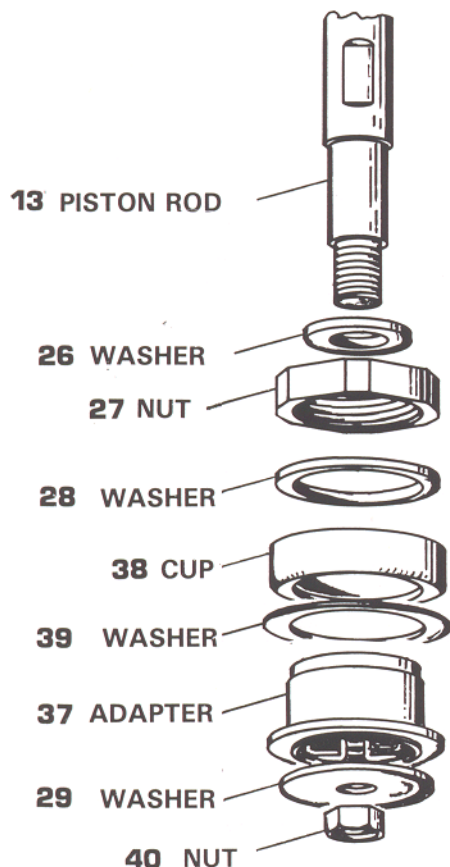

FIGURE 8
25. Unthread & remove **40** nut from **13** piston rod. (see Fig. 8)
26. Remove **29** washer from **13** piston rod (see Fig. 8)
27. Remove **27** nut from **37** adapter. (see Fig. 8)